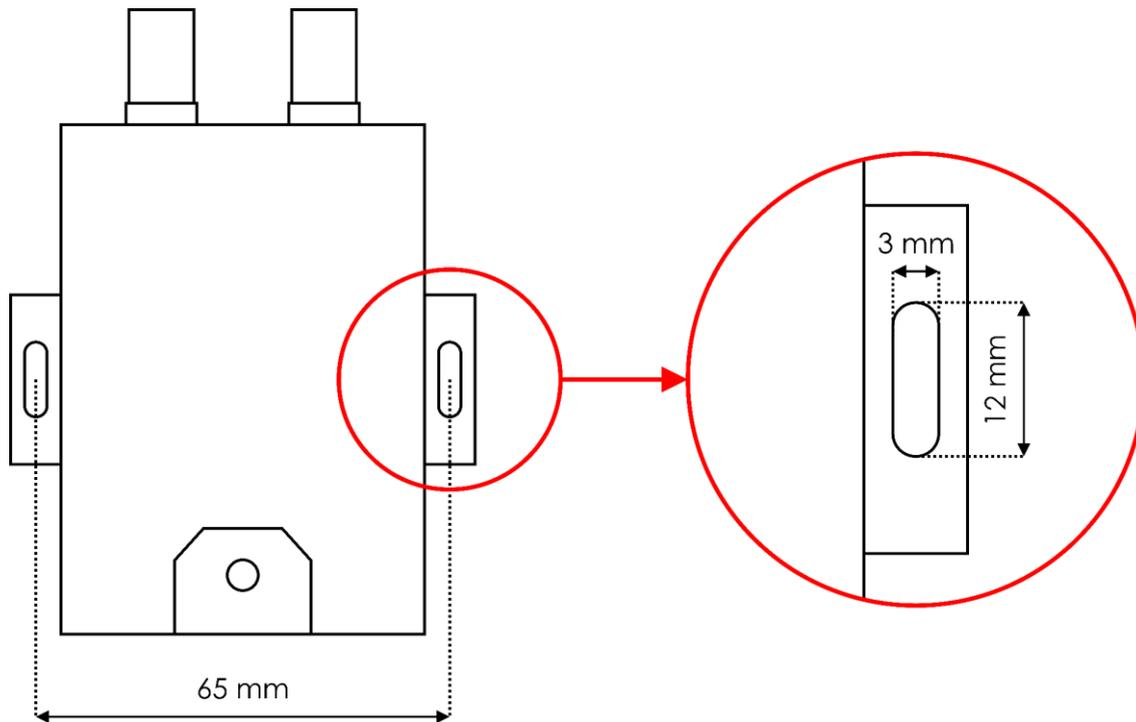

Fig. 07
- 01) Insert 2 screws into the **2 x mounting brackets (06)** and tighten them, to mount the device on a display or a monitor. See Fig. 07.